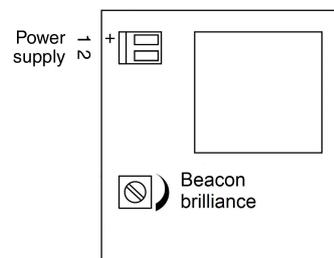

Fig 3 Location of field terminals and controls.
- d. Beacon brilliance is adjustable using the control shown in Fig 3.